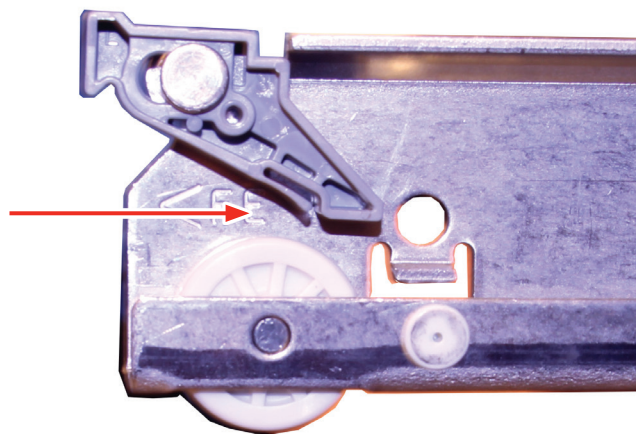

Fig. 22
2. Gently set the drawer rails back onto the rollers on the end of the drawer sliders, and push the drawer in until completely closed (Fig. 22).